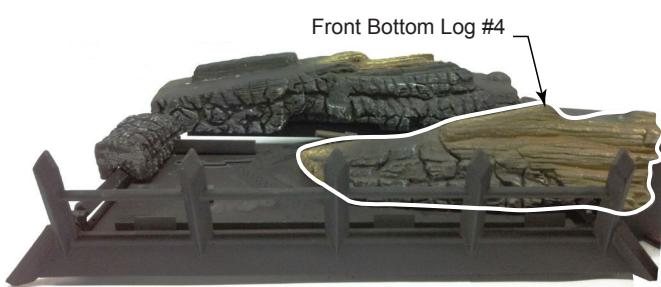

Figure 53
- Place front bottom right log (#4) on right pin located on burner and right grate bar. Figure 53.